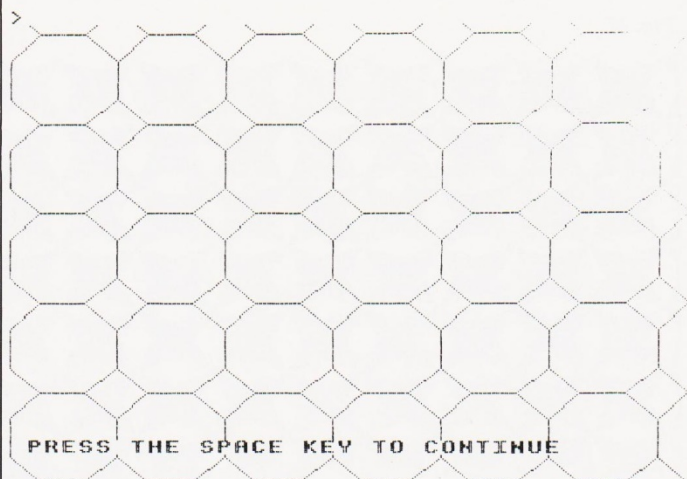

Fig. 21
- PROCC7 (3700-3750) The square which is seen in the grid in Figure 21 is coloured, using the coordinate of the centre of the octagon which joins the upper left hand side of the square as reference.